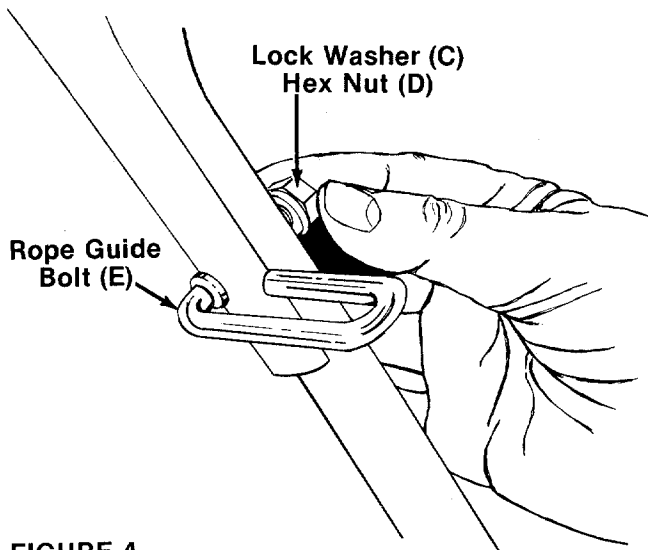

FIGURE 4.
5. Insert the rope guide bolt (A) through the right hand side of upper and lower handle. Secure finger tight only with lock washer (C) and hex nut (D). See figure 4.